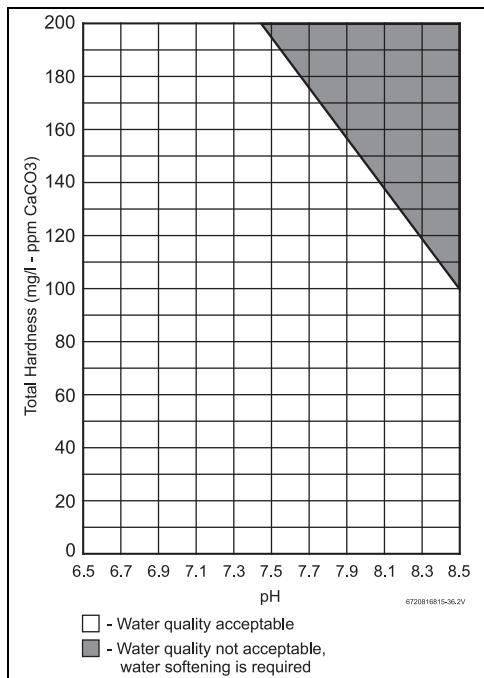

Fig. 26 Water total hardness and pH values
Water quality can have an impact on appliance longevity. Water supplied to the Greentherm T9900 SE/i must be in accordance with table 17 and fig. 26.
For water analysis data call your local water department, or if on a well, have well water analyzed periodically. Heavy scale will form if the combination of water total hardness and pH exceeds the values specified in fig. 26 (grey area), Bosch recommends consulting a local water treatment professional for water softening-conditioning options.
1. Total Harness and pH maximum values must be evaluated in combination. Indicated maximum values will be reduced according to fig. 26.